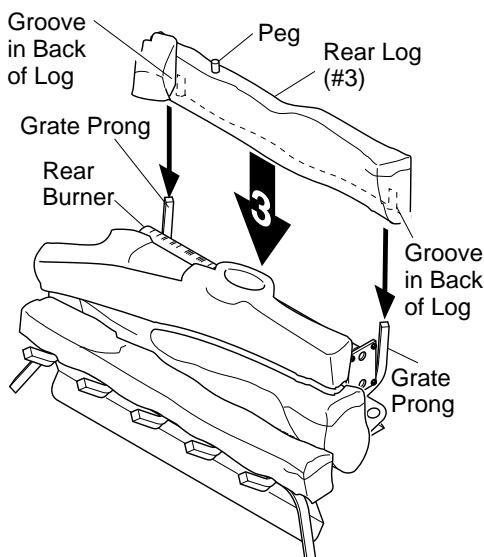

Figure 36 - Installing Rear Log (#3)
3. Slide the grooves in the back of the rear log (#3) against the rear grate prongs. Make sure the peg on the log is on top (see Figure 36).